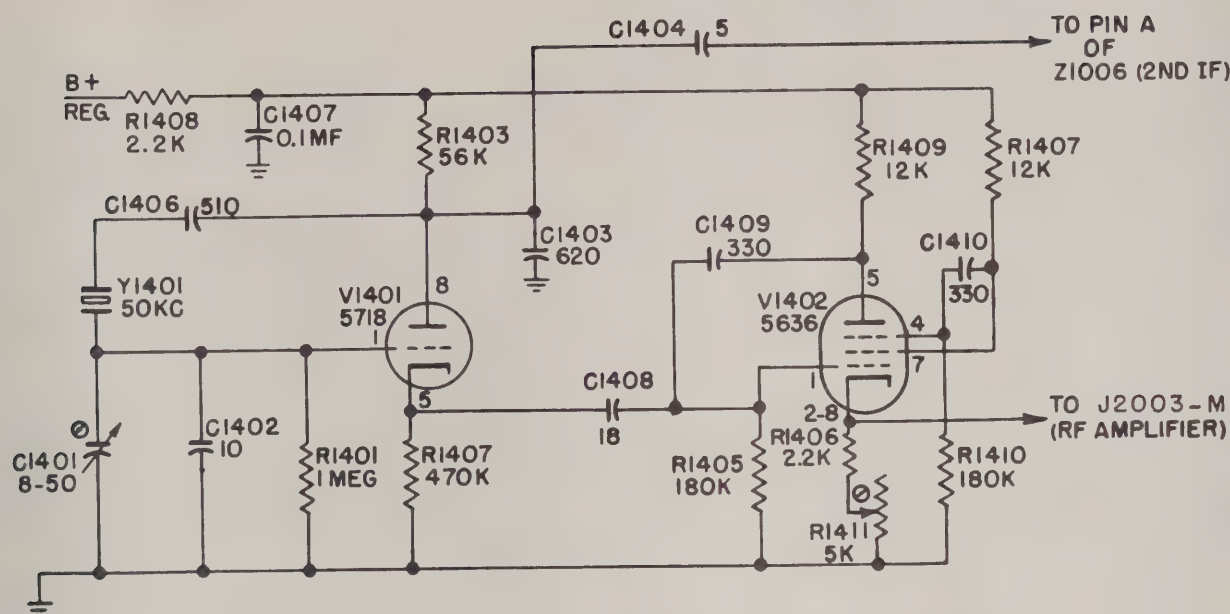

Figure 2-6. Crystal Calibrator, Simplified Schematic AN/FRR-21
(1) 10-KC CRYSTAL CALIBRATOR (AN/FRR-21).—Refer to figure 2-6. The 10-kilocycle crystal calibrator consists of 10-kilocycle multivibrator V1402, which is synchronized to a 50-kilocycle Pierce oscillator, V1401. The Pierce oscillator circuit includes a triode V1401, the plate, pin 8, and grid, pin 1 are coupled to each other through capacitor C1406 and crystal Y1401, which is the frequency-determining element. Capacitors C1401, C1402, and C1403 comprise the voltage divider network to maintain proper voltage and phase relationship among the grid, cathode, and plate for oscillation